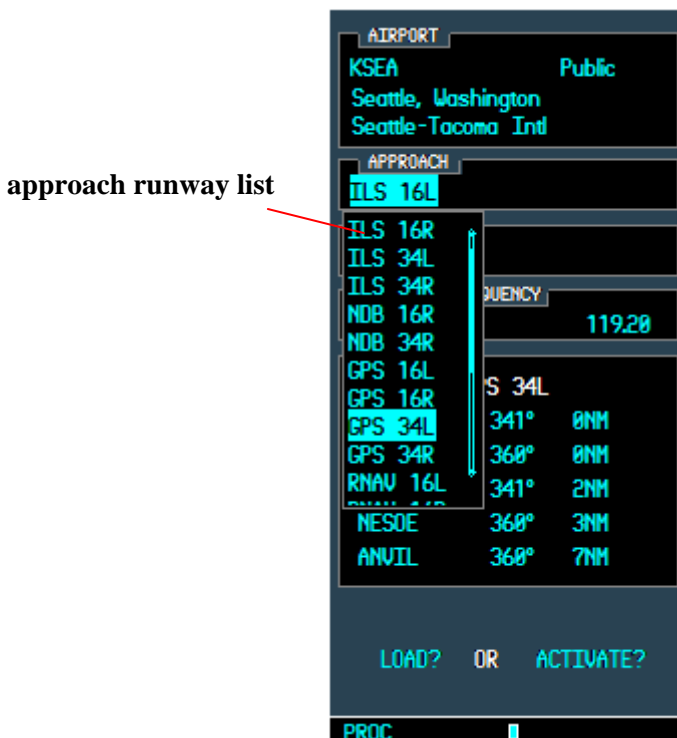

Figure 8.5
3. clicking on the ENTER button with a FPL or DTO will open the airport approach page as shown in Figure 8.5.